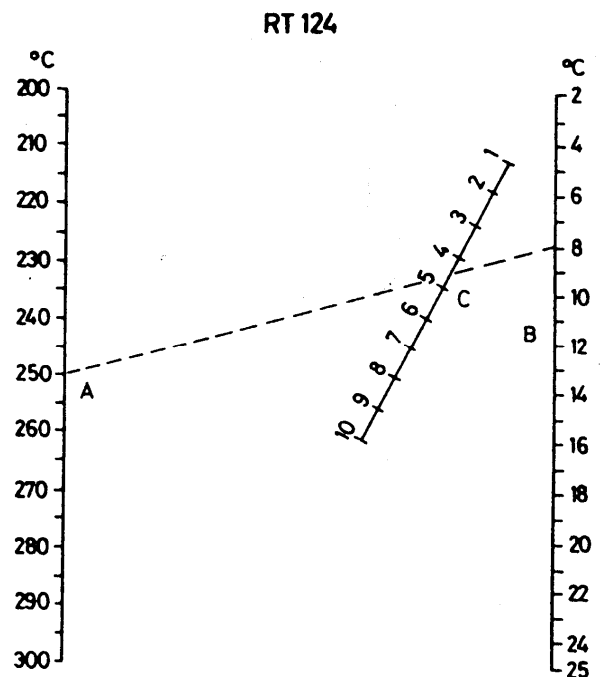

Fig. 5a
- Remove the thermostat cover and position drum to the required value for the differential (burner stop) as shown in the diagram (Fig.5a). The differential value is added to the fixed value as at point a).